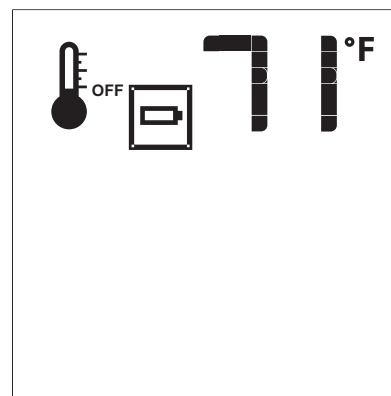

Figure 25
- When the transmitter batteries are low, an Icon will appear on the LCD display of the transmitter. **See Figure 25** before all battery power is lost. When the batteries are replaced this Icon will disappear.